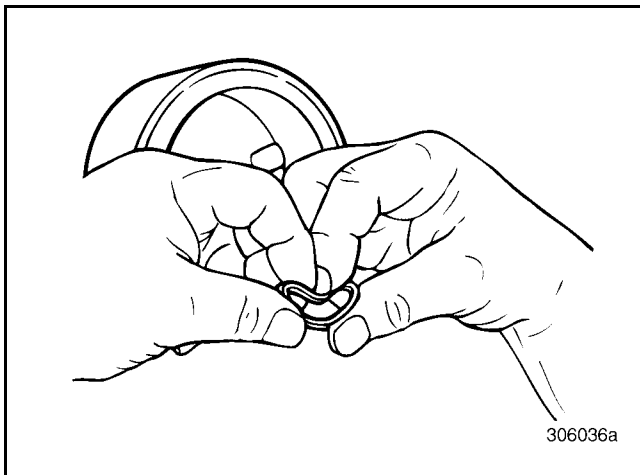

Figure 337 — Forming Seal
2. Form the Teflon® seal into a kidney shape as shown in Figure 337.